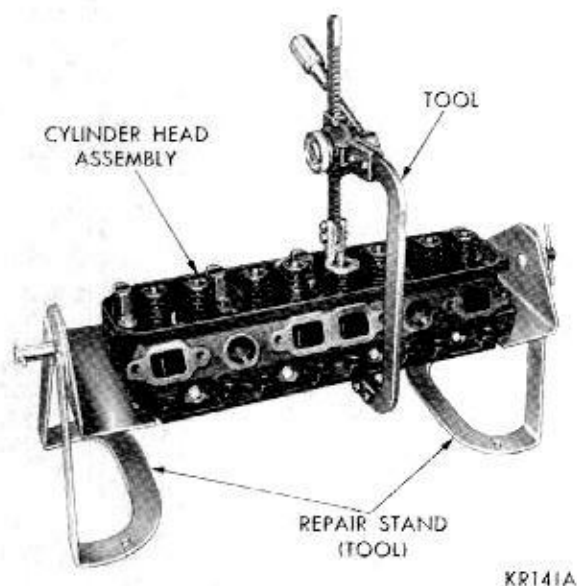

Fig. 8—Compressing Valve Spring
- (1) With cylinder head removed, compress valve springs, using Tool C-3422A, (Fig. 8).